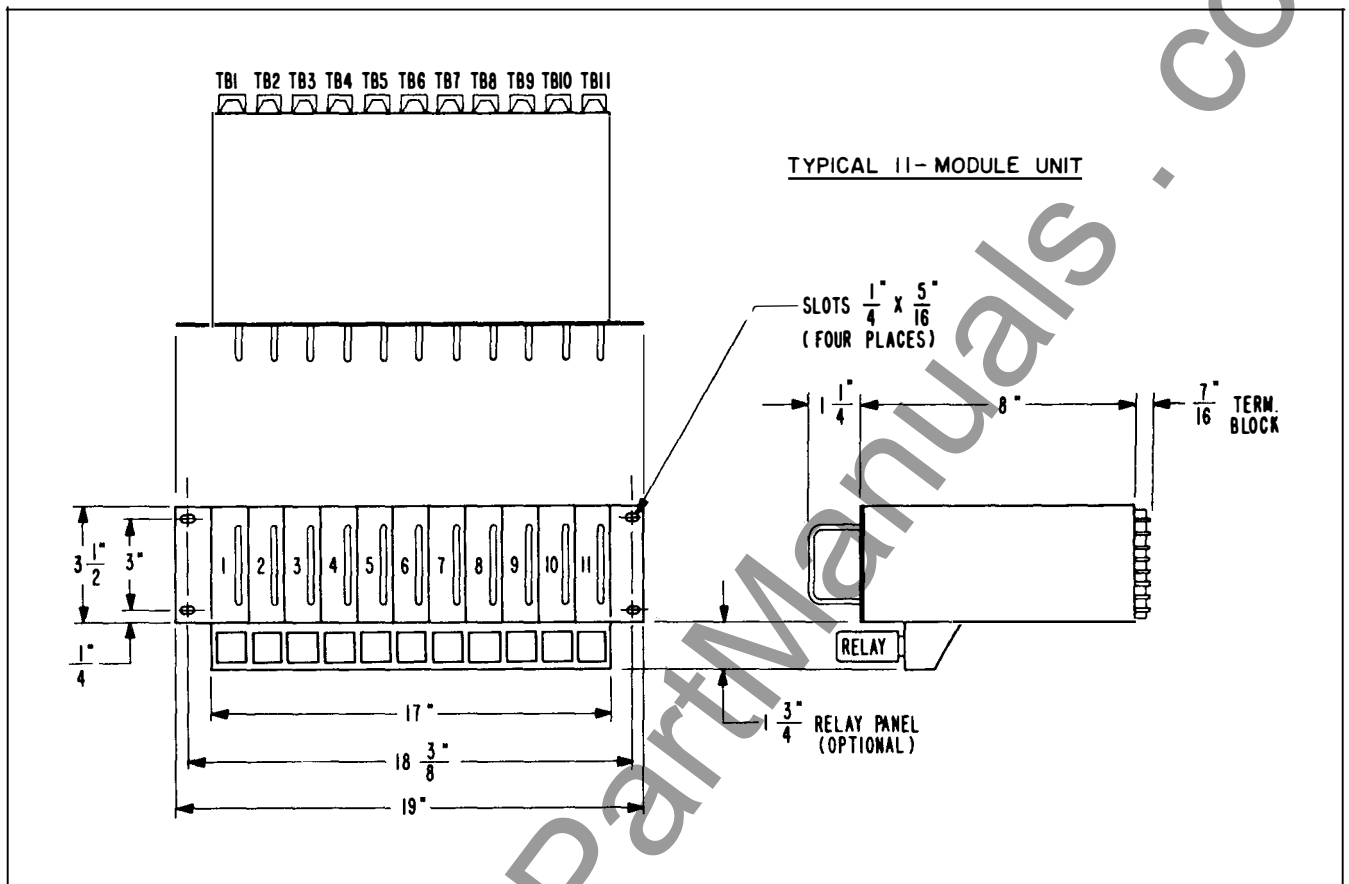

Fig. 4 - Outline and Drilling Plan of 11 Module Chassis
a) An eleven module chassis with a nominal overall size of 5¼" h x 19" w x 9¾" d, which mounts in standard relay rack. Outline and drilling dimensions are shown in Figure 4.